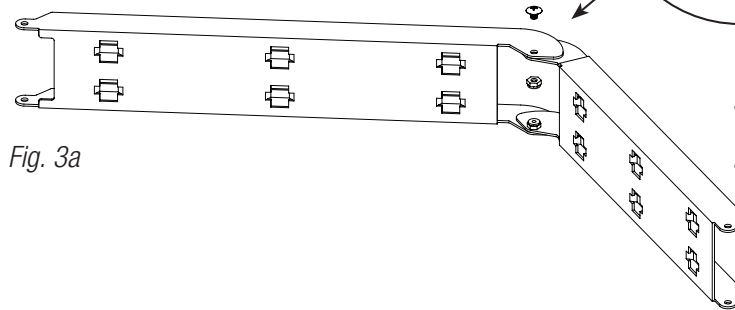

Fig. 3a
2. Attach arms to each other using bolts and lock nuts (*Fig. 3a, pg. 3*).